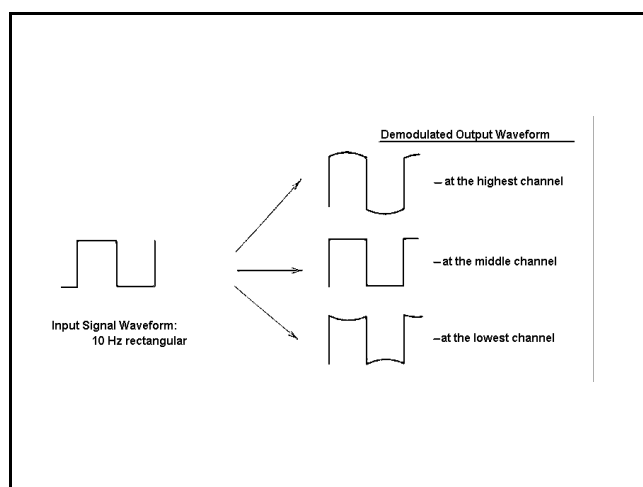

Figure 4 - Typical Rectangular Waveform of Demodulated Output
3. Change the signal to a 10 Hz rectangular waveform signal. Then, the demodulated output from the modulation analyzer should look like figure 4. If the level adjustments under step 1 and 2 are out of balance, the rectangular waveform will be distorted (refer to figure 4).